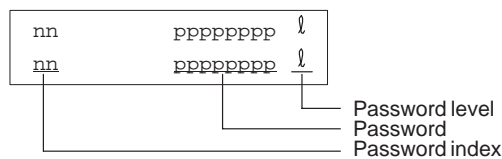

Figure 6-1 Password List
**Displaying the password list** Choose the standard screen *Password* → *Edit*. The password list is displayed (Figure 6-1).